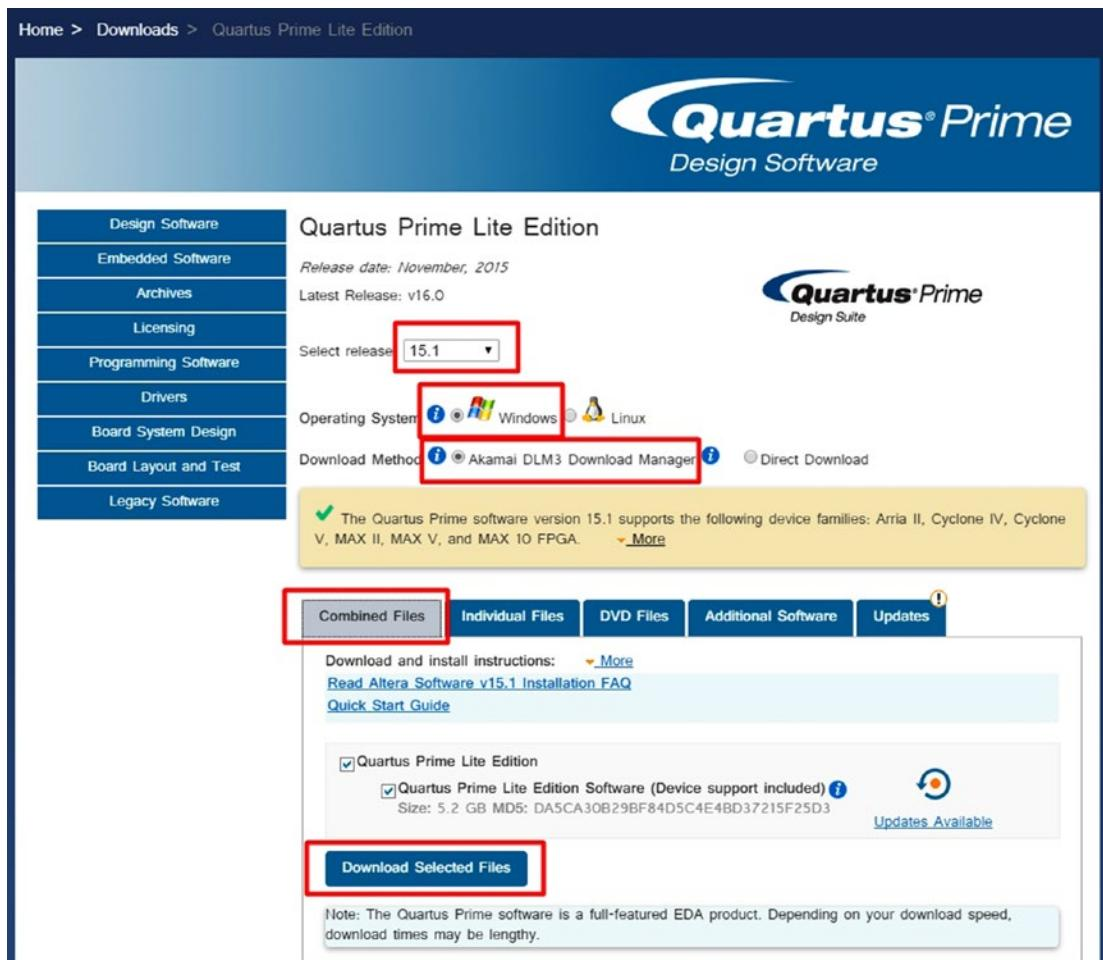

Figure 3-6. Altera Quartus Prime Lite Edition selection page—Combined Files with Akamai DLM3 Download Manager
3. I suggest you download everything: click the **Combined Files** tab which is shown in Figure 3-6. If you have trouble downloading as one big file, then click the **Individual Files** tab which is shown in Figure 3-7. Regardless of which method you choose, you must select release version 15.1. Be sure to download the same version we are using.